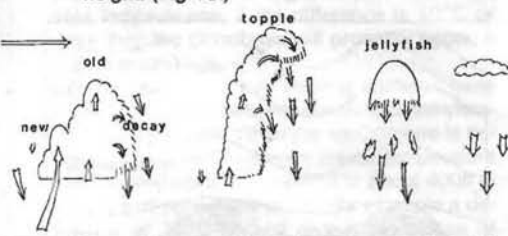

Fig 10
- A cloud may be still be growing on the upwind side while decaying on the downwind side. This is common with large clouds when there is an increase of wind speed with height. (Fig 10.)